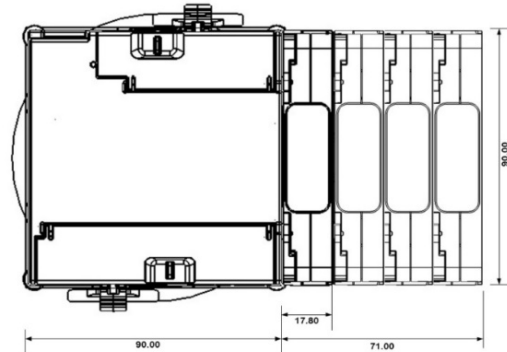

Figure 5: module expansion, front panel view
**Please note to leave room for future expansion:** when installing a basic unit (without modules), it is recommended to maintain a minimal gap of 30-100mm to the right of the unit, allowing future installation of additional detachable SATEC modules (figure 5; depending on number of added modules, 17.8mm each).